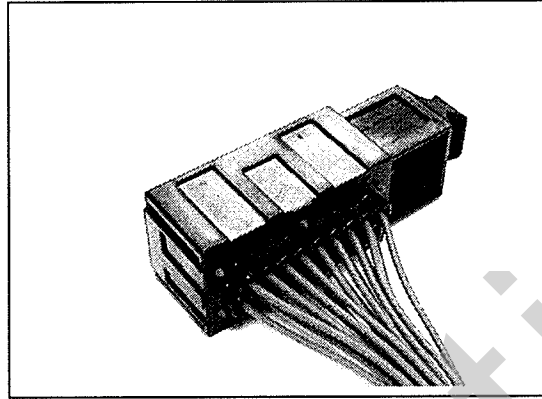

Figure 21:
c) Repeats step a) and b) until all terminals are inserted (see figure 21).